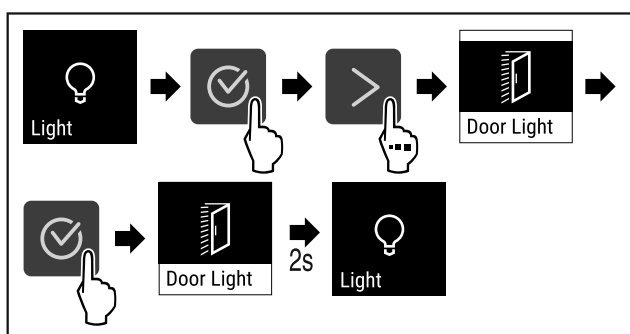

Fig. 87
- ▶ Carry out steps (see Fig. 87).
- ▶ Complete steps (see Fig. 87).